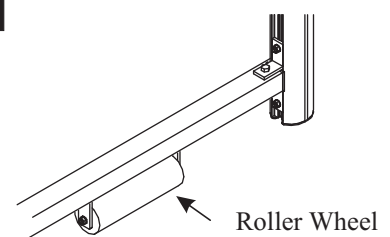

Fig.10
**10 Folding The Goal** - The goal can be folded in either direction about the Support Posts. With 2 people, push each upright simultaneously in the chosen direction, ensuring rollers (Fig 10) can move freely.